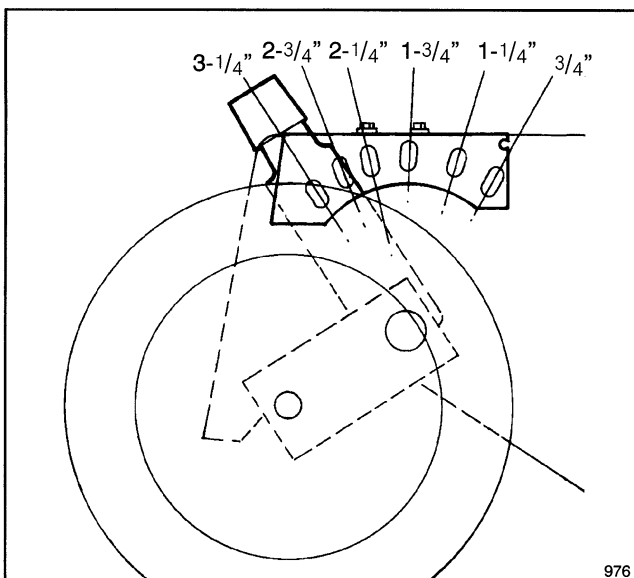

Figure 7
- Grass grows at different rates at different times of the year. In the heat of the summer, it is generally best to cut grass at the 1-3/4", 2-1/4" or 2-3/4" height-of-cut settings (Fig. 7). Only about 1/3 of the grass blade should be cut off. Cutting below the 1-3/4" setting is not recommended unless grass is sparse or it is late fall when grass growth begins to slow down.